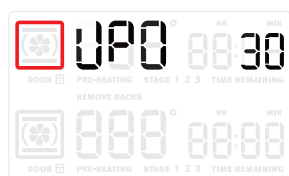

Figure 29: Oven temperature set 30° higher than default
1. Press **user pref** until **UPO** appears in the display. The default setting of **0** should display next to **UPO** (Figure 29).
2. To increase the oven temperature by 30°F , press **+hi** until **3 0** appears next to **UPO** (Figure 29).